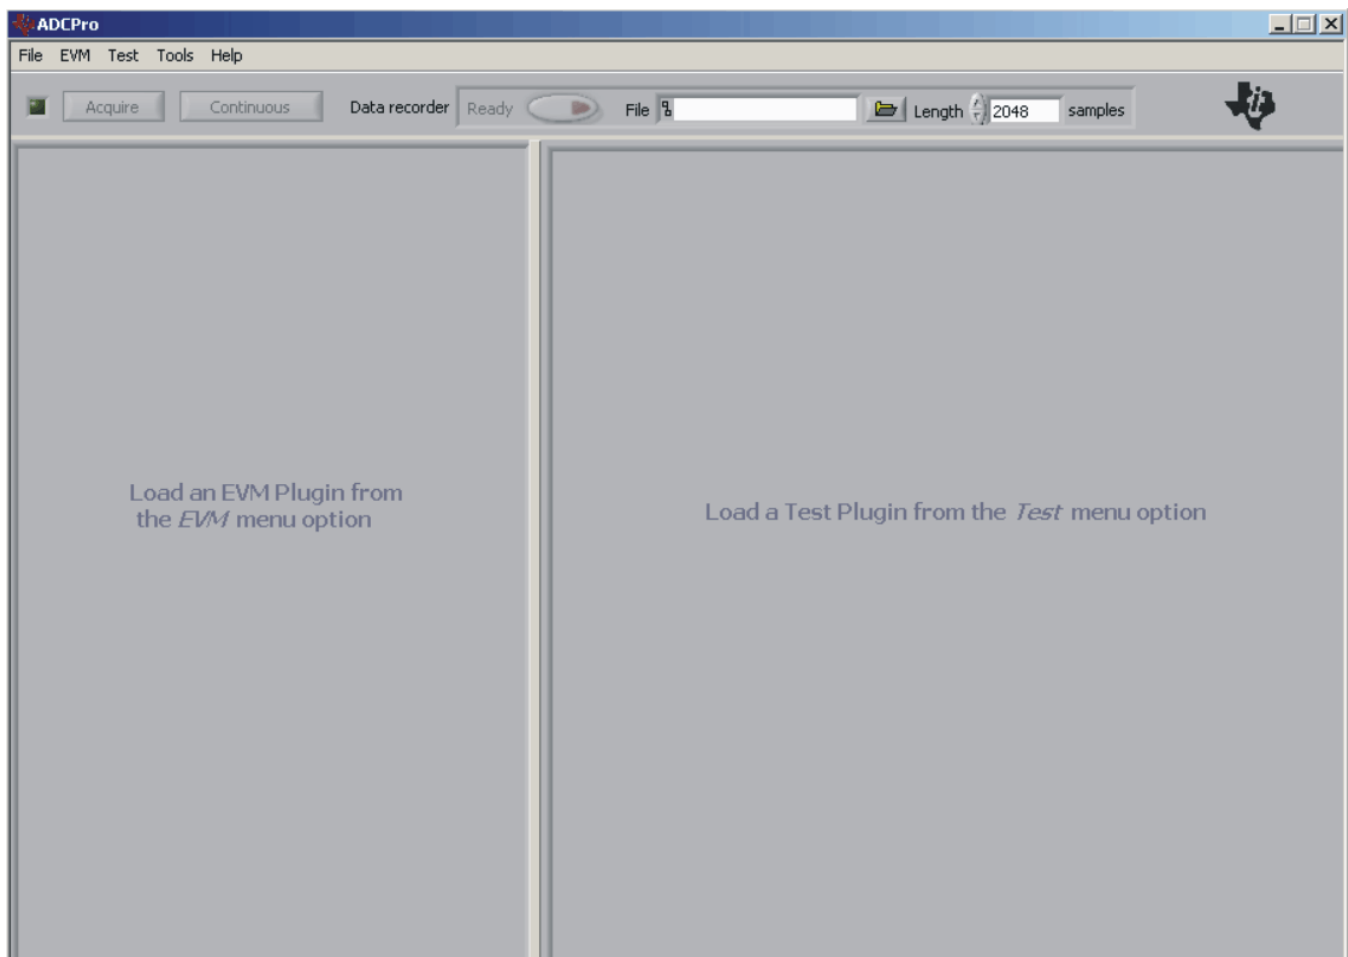

Figure 13. ADCPro Software Start-up Display Window
Step 1. Start the software by selecting ADCPro from the Windows Start menu. The screen in Figure 13 appears.